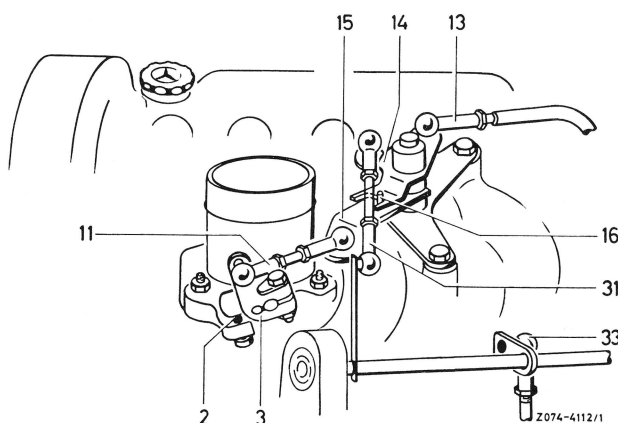

Fig. 1
- 4 Adjust push rod (33) to a length of 104 mm from center of rubber mount to center of ball socket and attach (Fig. 1).
- 5 Adjust connecting rod (31) to a length of 90 mm or 107 mm for gate shift lever with bore next to ball head and attach (Fig. 1).
6 Adjust connecting rod (31) to a length of 114 mm, connecting rod (11) to 69 mm and attach (Fig. 1).